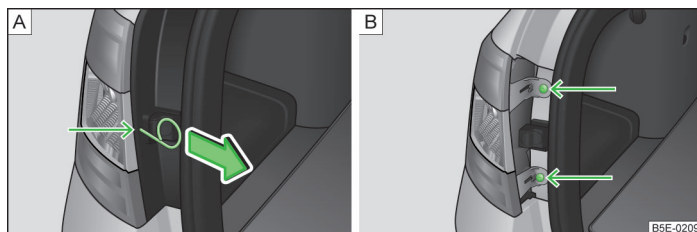

Fig. 233 Remove cover / light
- Insert the clamp for removing the wheel trims » page 236, *Vehicle tool kit* into the hole at the position indicated by the arrow » Fig. 233 - [A].
- Remove the cover in the direction of the arrow » Fig. 233 - [A].
- Use the screwdriver from the tool kit to unscrew the lamp » Fig. 233 - [B].